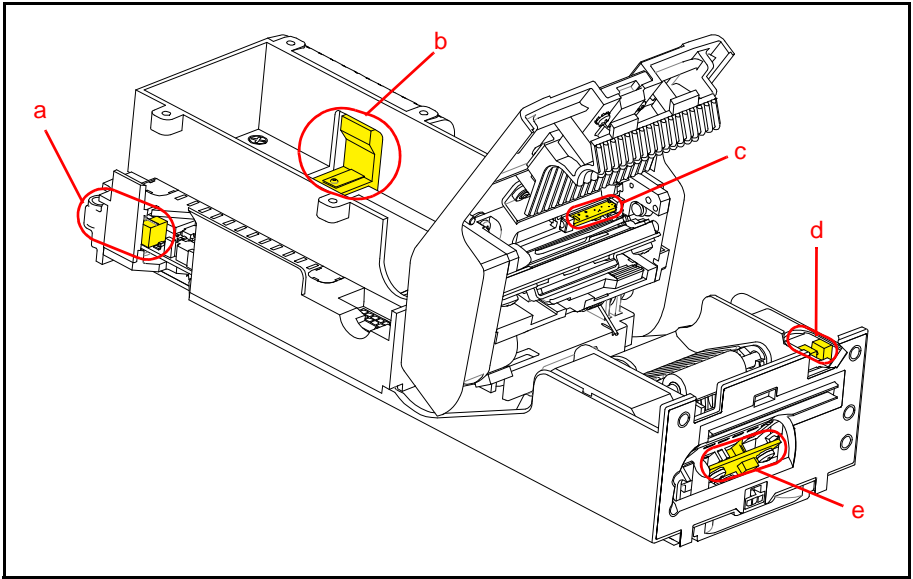

Figure 4 GEN2U Printer Sensor Locations
NOTE: GEN2U Printer Sensor Cleaning Methods are listed in Table 2 below. Refer to Figure 4 on the following page for Sensor locations.
2. Use a cleaning swab dampened with Isopropyl Alcohol to wipe clean the following Sensors (refer to Figure 4 on the following page):
- Printer Tray Sensor (Figure 4 **a**)
- Paper Low Sensor (Figure 4 **b**)
- Lid Open Sensor (Figure 4 **d**)
- Ticket Taken Sensor (Figure 4 **e**)